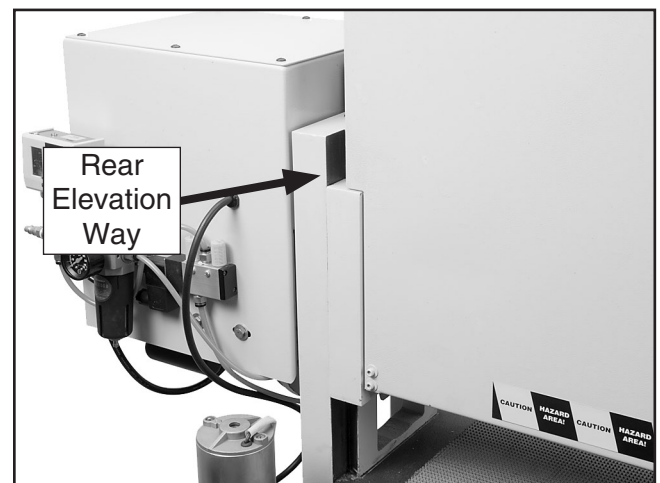

Figure 29. Elevation dovetail way on rear of the sander.
2. Raise and lower the sanding cabinet to access the entire length of the front and rear dovetail way (see **Figure 29**).